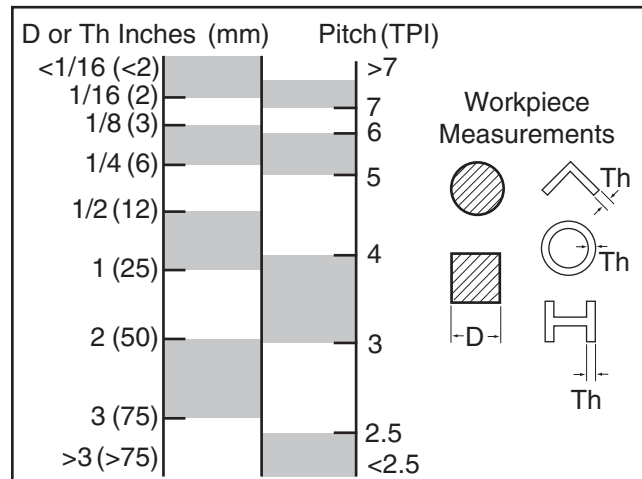

Figure 40. Blade selection chart.
- For solid workpieces, this measurement is the length of cut taken from where the tooth enters the workpiece, sweeps through, and exits the workpiece. See (D) on the chart in **Figure 40**.
2. Refer to the "D or Th" column of the blade selection chart in **Figure 40**, and read down to find the workpiece thickness you need to cut. Read across to find the appropriate Pitch (TPI) for the cut. For blade alternatives, see **Accessories on Page 31**.